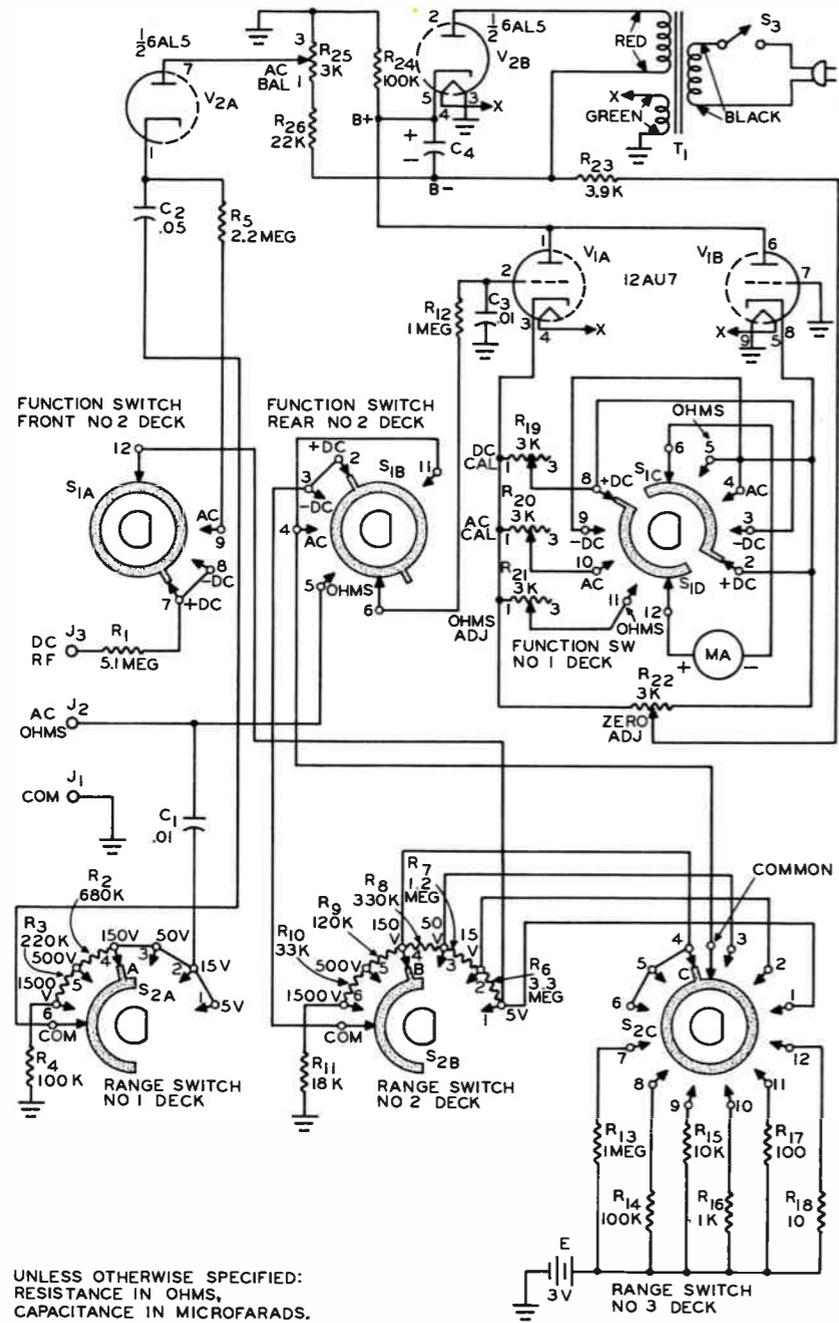

FIGURE 5
13. (b) a balanced bridge circuit. -- The arrangement of the amplifier and meter movement of Figure 5 is similar to the bridge circuit shown in Figure 3C.